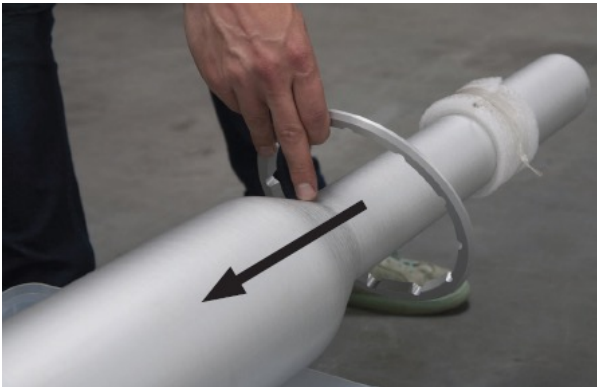

Fig. 8-2: Orient Bottom Adapter Ring with Bumpers Facing Top of Pole
2. Orient the bottom adapter ring so that the bumpers face the top of the pole and slide it over the pole from the top (refer to Figure 8-2).